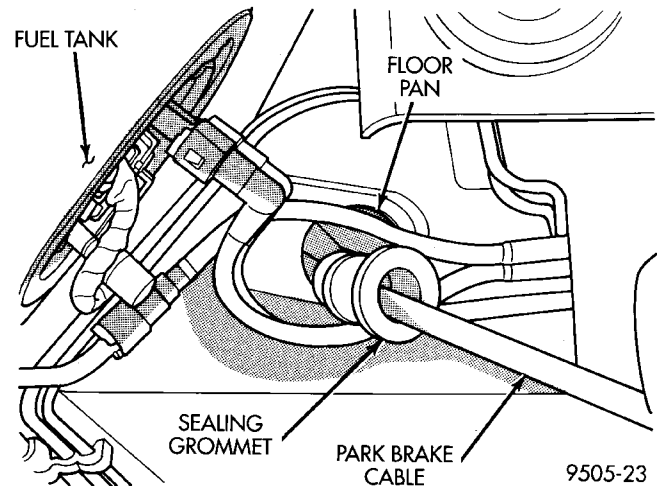

Fig. 153 Park Brake Cable Seal At Floor Pan
(23) Remove park brake cable and sealing grommet (Fig. 153) from floor pan of vehicle.